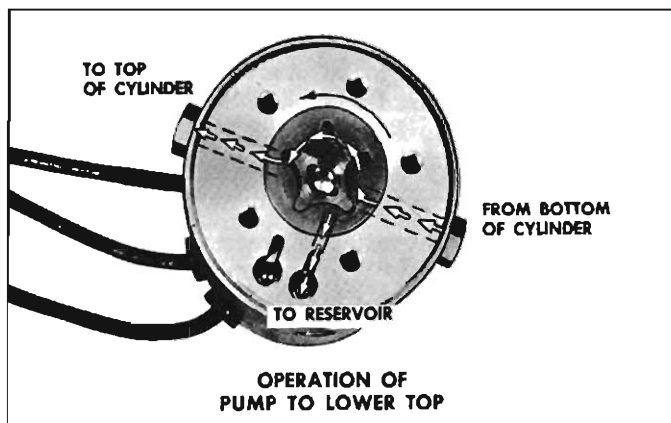

Fig. 69—Operation of Pump to Lower Top
- 2 Lowering the Top. When the green motor lead is energized the motor drive shaft turns the rotors counterclockwise as indicated by the large arrow in Figure 69. The action of the pump rotors forces the fluid under pressure to the top of each cylinder. This action causes the fluid below the piston in each cylinder to be forced into the pump which recirculates the fluid to the top of each cylinder. The surplus hydraulic fluid due to piston rod displacement flows into the reservoir.